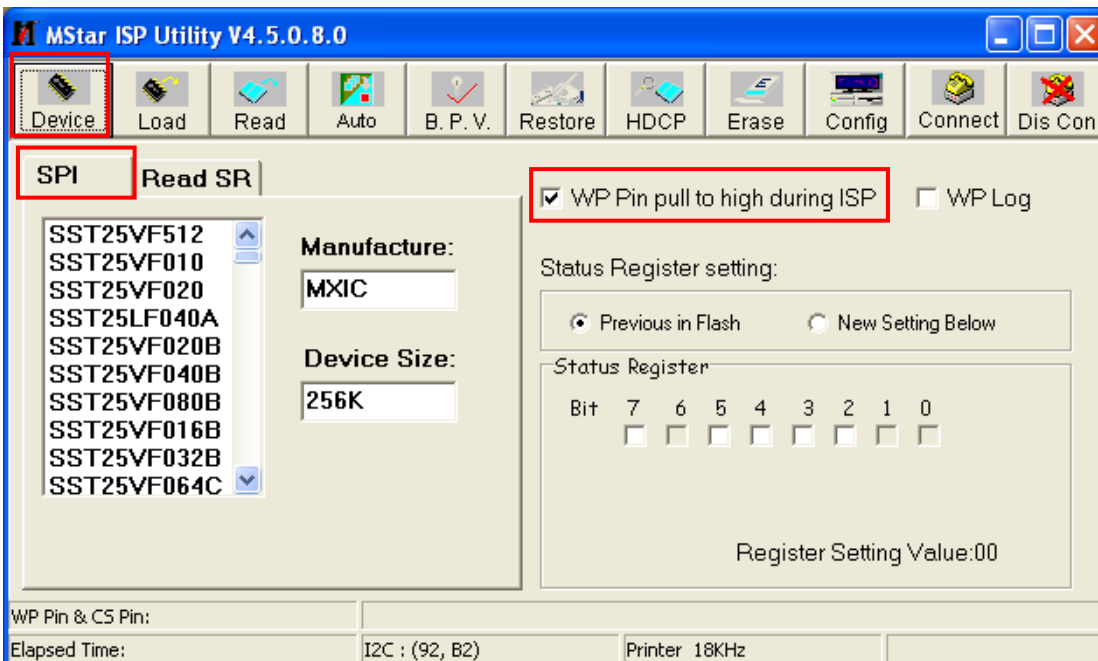
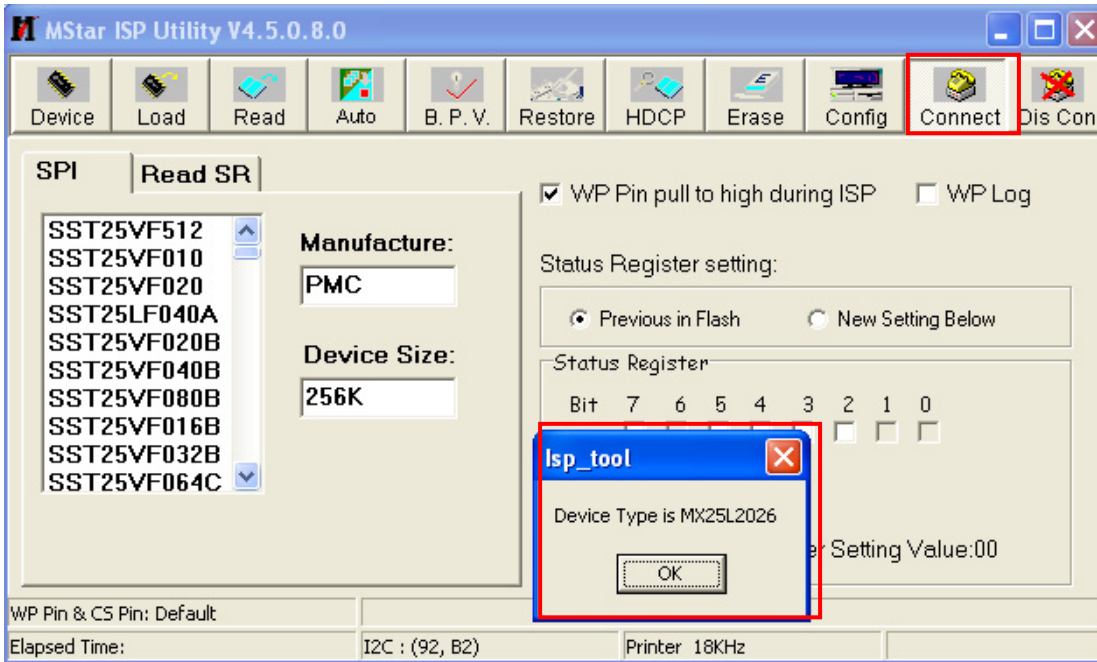

Fig6
Fig7
- 4.4. Click “Device” and tick “WP Pin pull to high during ISP” as fig6 and click “connect” later, will pop up the flash type of the monitor as figure7.